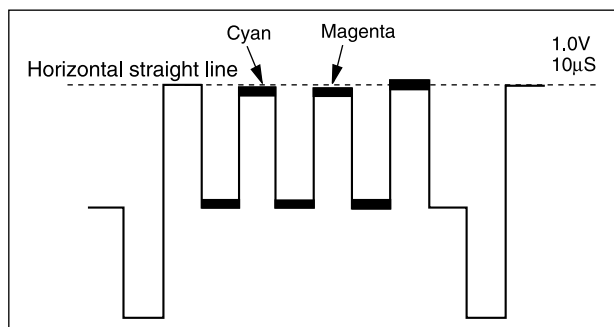

Fig. 3-6
2. Using the volume keys on the jig remote controller, adjust the top excursions of waveform to be linear. (Fig. 3-6)